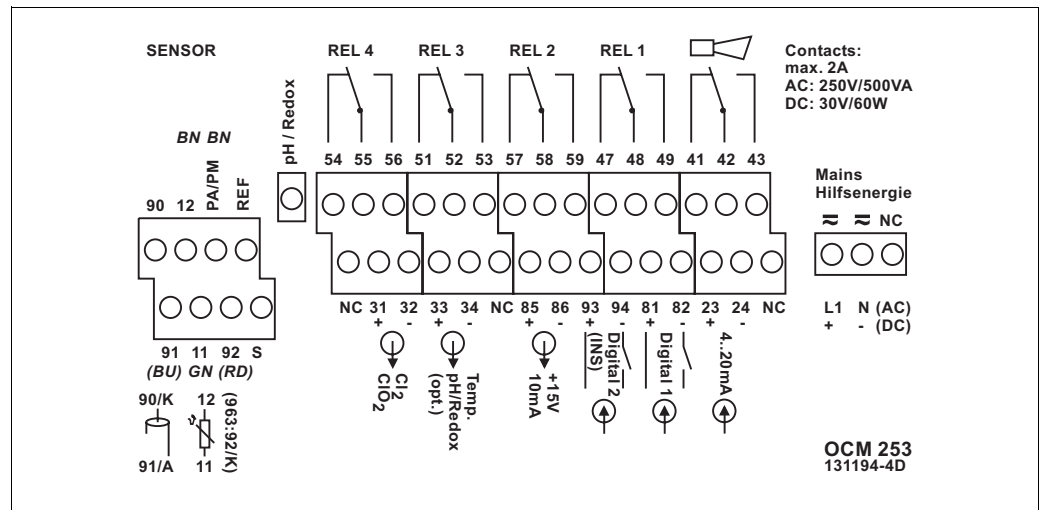

Fig. 14: Field instrument connection compartment sticker
3. Connect the cable in accordance with the terminal assignment (see Fig. 14).